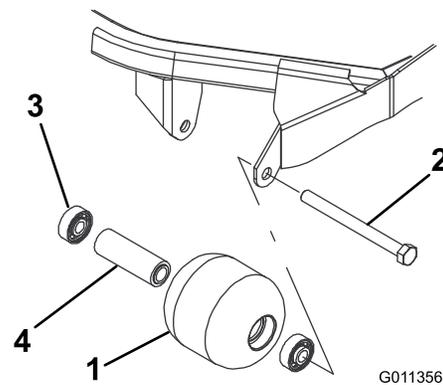

Figure 68
1. Remove the roller mounting bolt (Figure 68).
4. Inspect the roller housing, bearings, and bearing spacer for damage (Figure 68). Replace damaged components and assemble.
1. Press the first bearing into the roller housing (Figure 68). Press on the outer race only or equally on the inner and outer race.
2. Insert the spacer (Figure 68).
3. Press the second bearing into the roller housing (Figure 68). Pressing equally on the inner and outer race until the inner race comes in contact with the spacer.